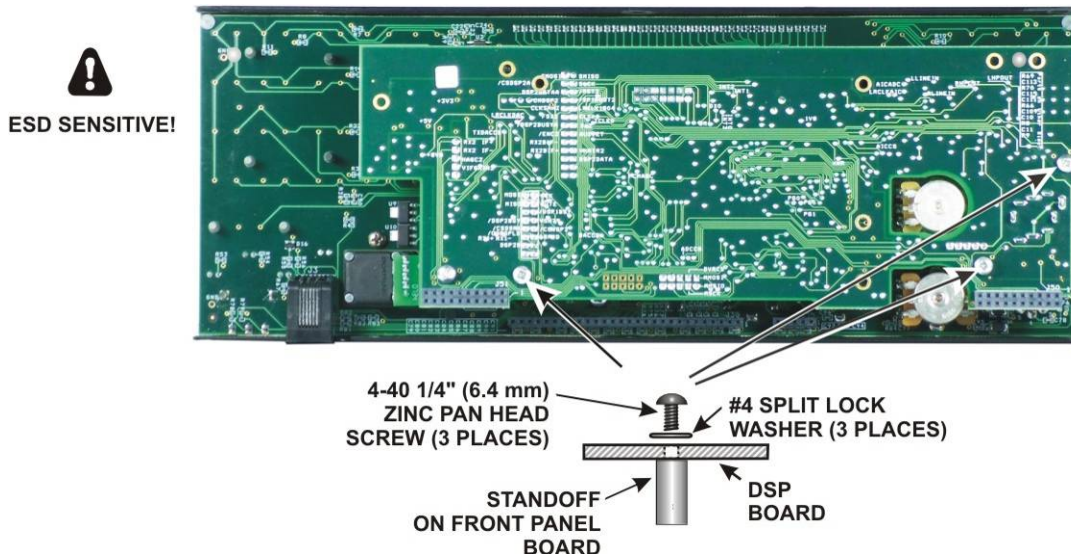

Figure 29. Mounting the DSP Board.
□ Secure the DSP board to the front panel board with three 4-40 1/4" (6.2 mm) zinc pan head screws and split lock washers as shown in Figure 29.